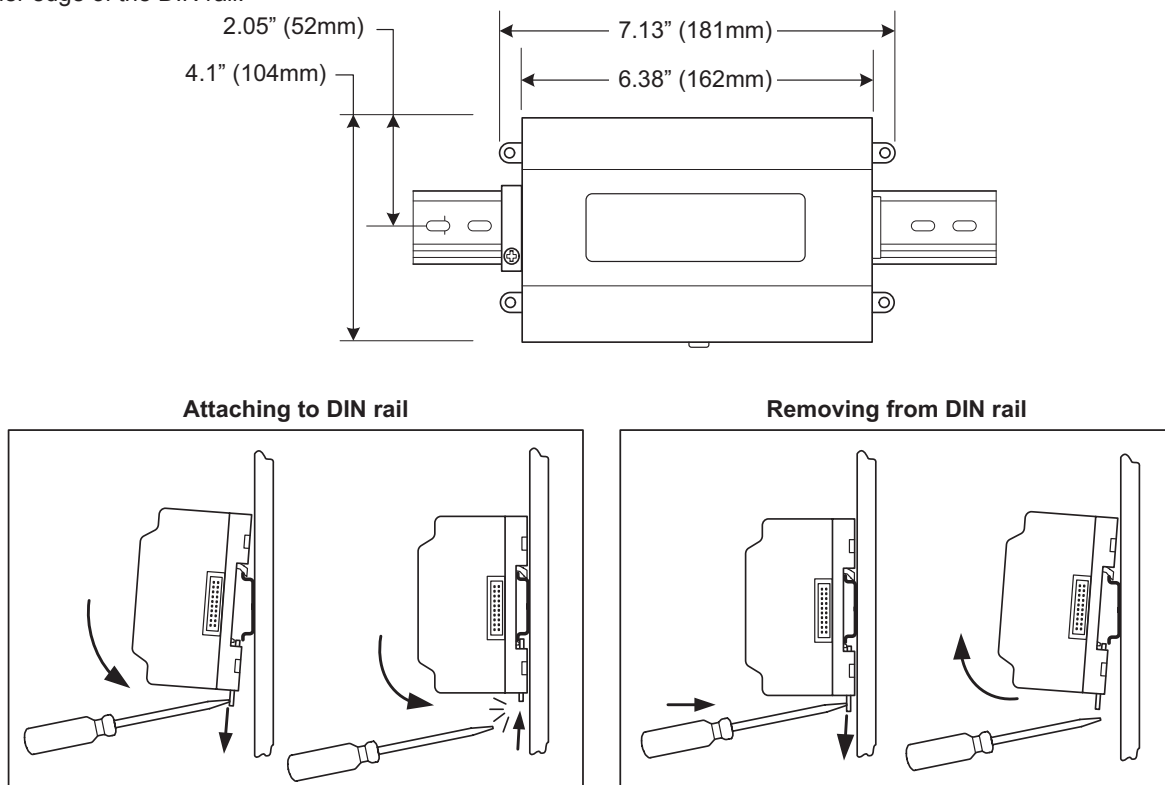

Fig. 1: DIN Rail Mounting
2. Position the LIA-WEB on the rail, tilting to hook DIN rail tabs over one edge of the DIN rail (see Fig. 1).
NOTE: DIN rail mounting is recommended over tab mounting (see Fig. 1).